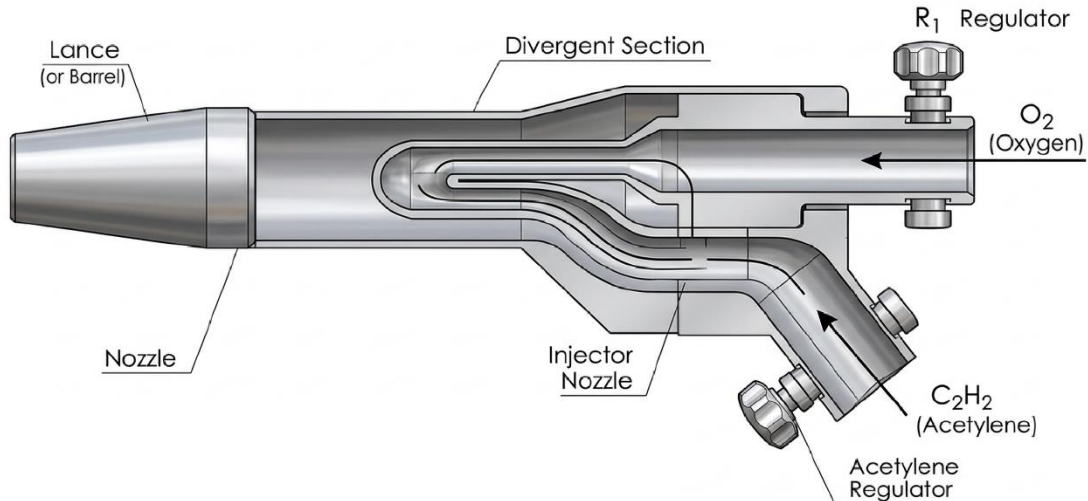

Figure 15: Oxy-acetylene Torch
- The flame is produced by the combustion of a mixture of oxygen and acetylene (or hydrogen, town gas, propane, etc.), which is mixed by the torch (fig.15).